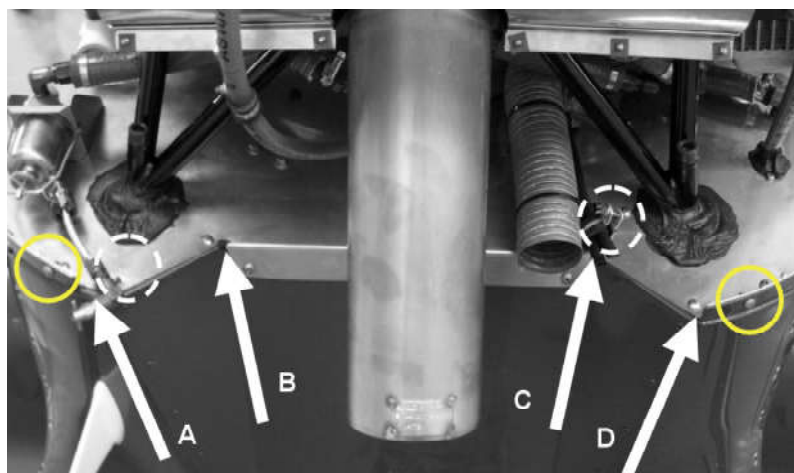

Figure 11 Forward View on Bottom Side Firewall
Position A and D of Figure 11, where different parts converge (firewall, aluminium profile, bottom fuselage cover and exhaust area covering sheet)
- 2 Install bottom cowling attachment screws (one on either side) without cowling present (see two outer circles in Figure 11).
- 5 Clean areas (from inside and outside) with solvents at four positions pointed out by the arrows in Figure 11. Immediately thereafter, dry these areas with a new dry cloth.